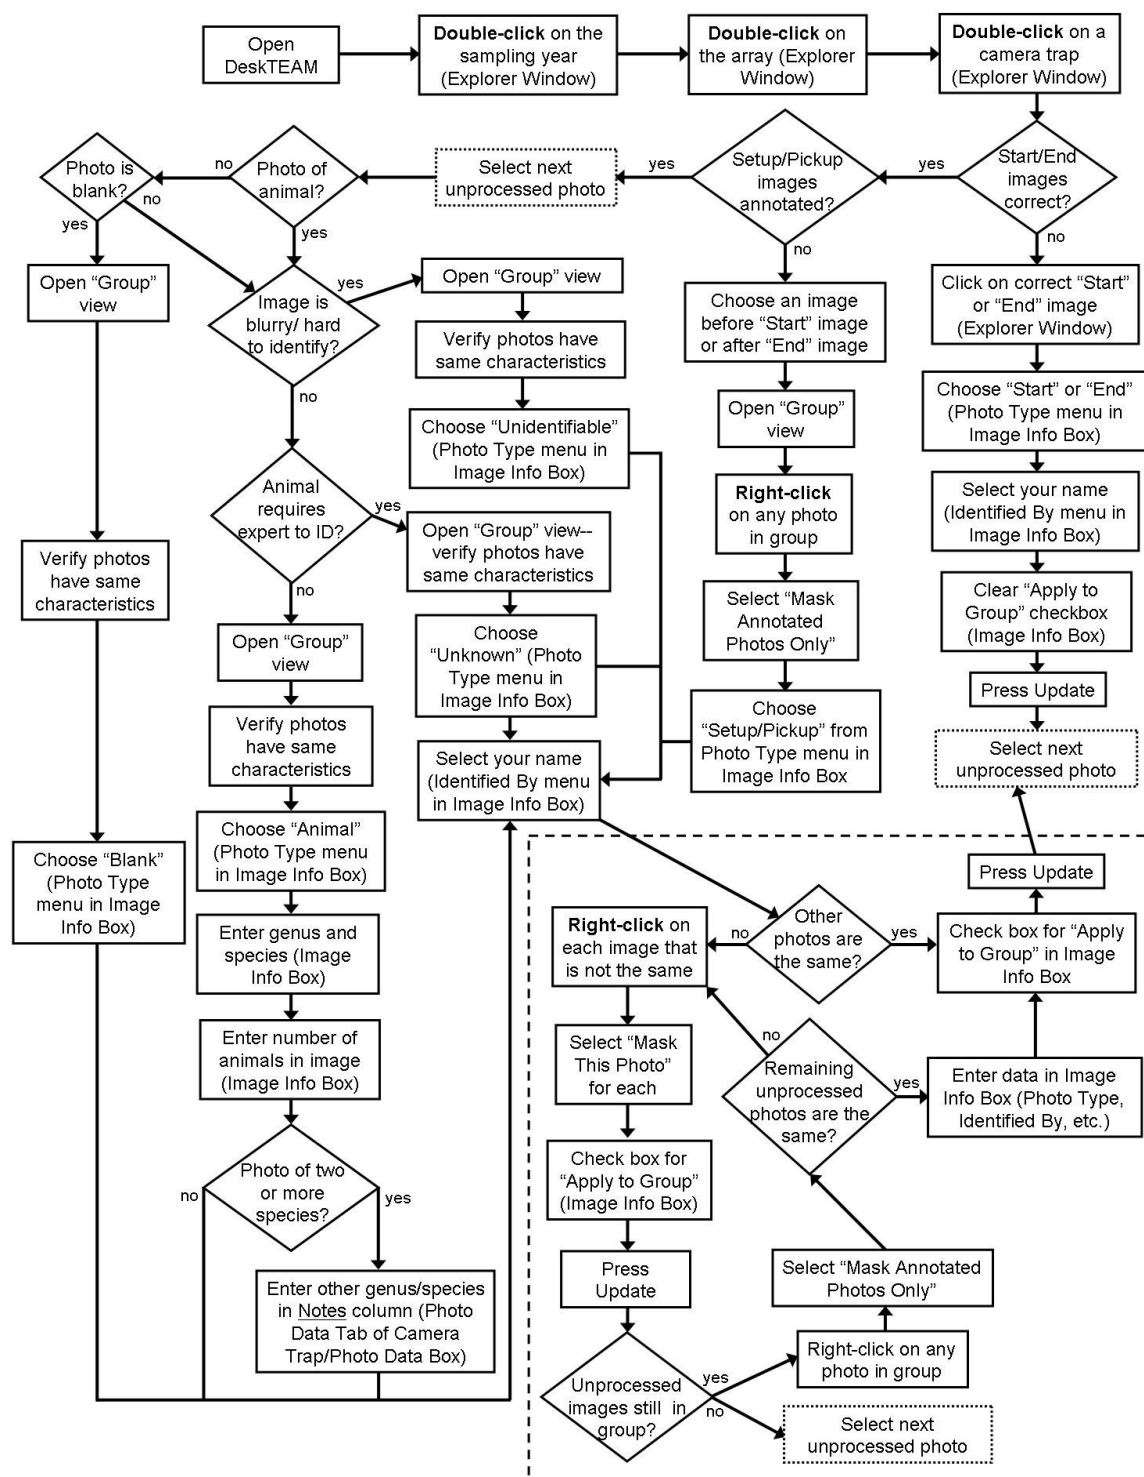

Figure 13. Workflow diagram for processing images in DeskTEAM
After all images for a 30-day sampling cycle have been transferred to DeskTEAM (see Section 4.10.1), they all need to be processed and uploaded (see Section 4.10.4 for uploading directions). **Data must be processed and uploaded to the TEAM Web site no later than 10 days after returning from a field assignment.** Refer to Figure 13 for a workflow depicting the way to process images in DeskTEAM based on various scenarios. Images may be processed on multiple computers and combined at the end in order to speed up the annotation process. See Section 4.10.5 for more information about how to use multiple computers.
6. **Process other images.** While processing animal photos, there are other photo types that will be encountered. Refer to Figure 13 to determine the proper procedure for each of the scenarios in this step. The instructions that follow below can also be used to process each photo type and their proper use: